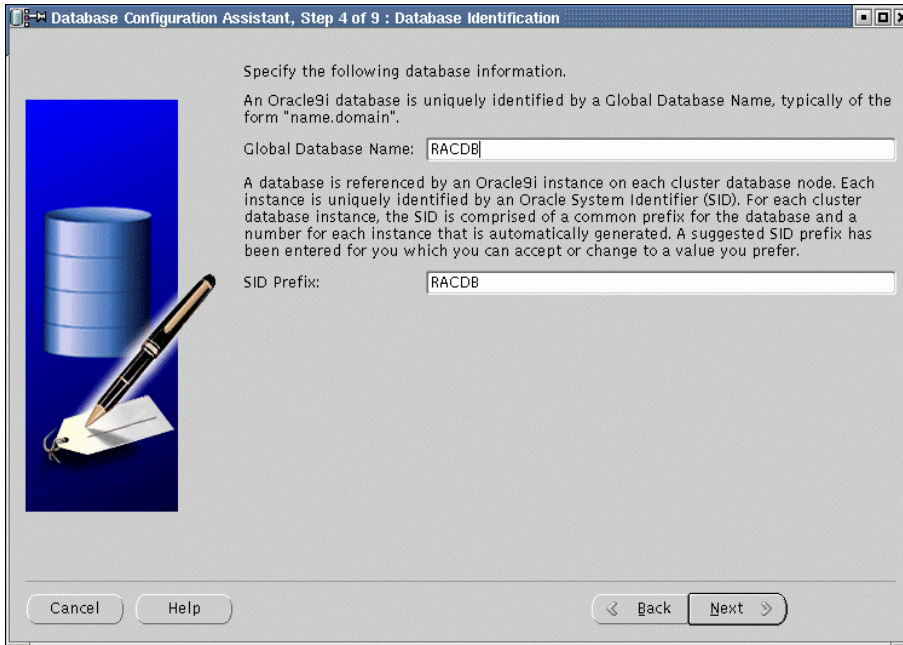

Figure 80. dbca database identification
- The next screen (Figure 80) asks for the names of our database. We entered **RACDB** for Global Database Name and left SID Prefix as suggested by dbca.